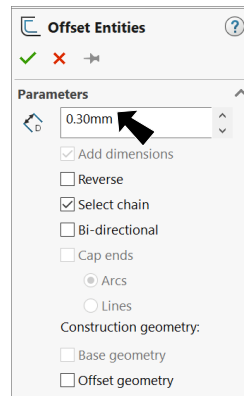

Fig. 11
Step 3. In the Offset Entities Property Manager set: under Parameters, **Fig. 11**